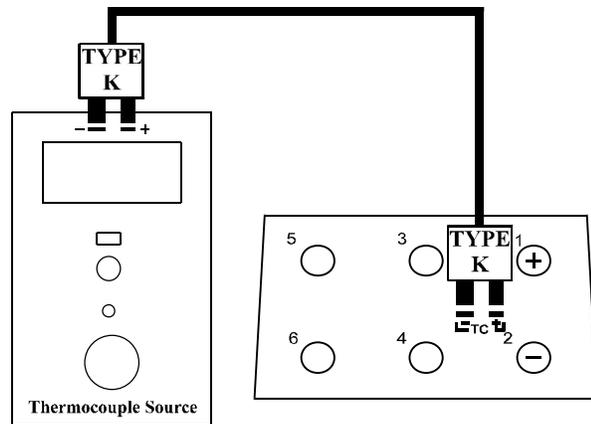

FIGURE 10
4. Switch the toggle switch to the HI position. Connect a K type T/C wire to the 830 at the T/C terminals. Connect the other end to a Thermocouple Source (See figure 10). Source 75°F into the 830 and wait 5 minutes for temperature differences to settle. Dial the 830 to 75 °F. Please wait 10 seconds between adjustments. Press *STORE/RESET* and then press *READ/POWER TRANSMITTER*.